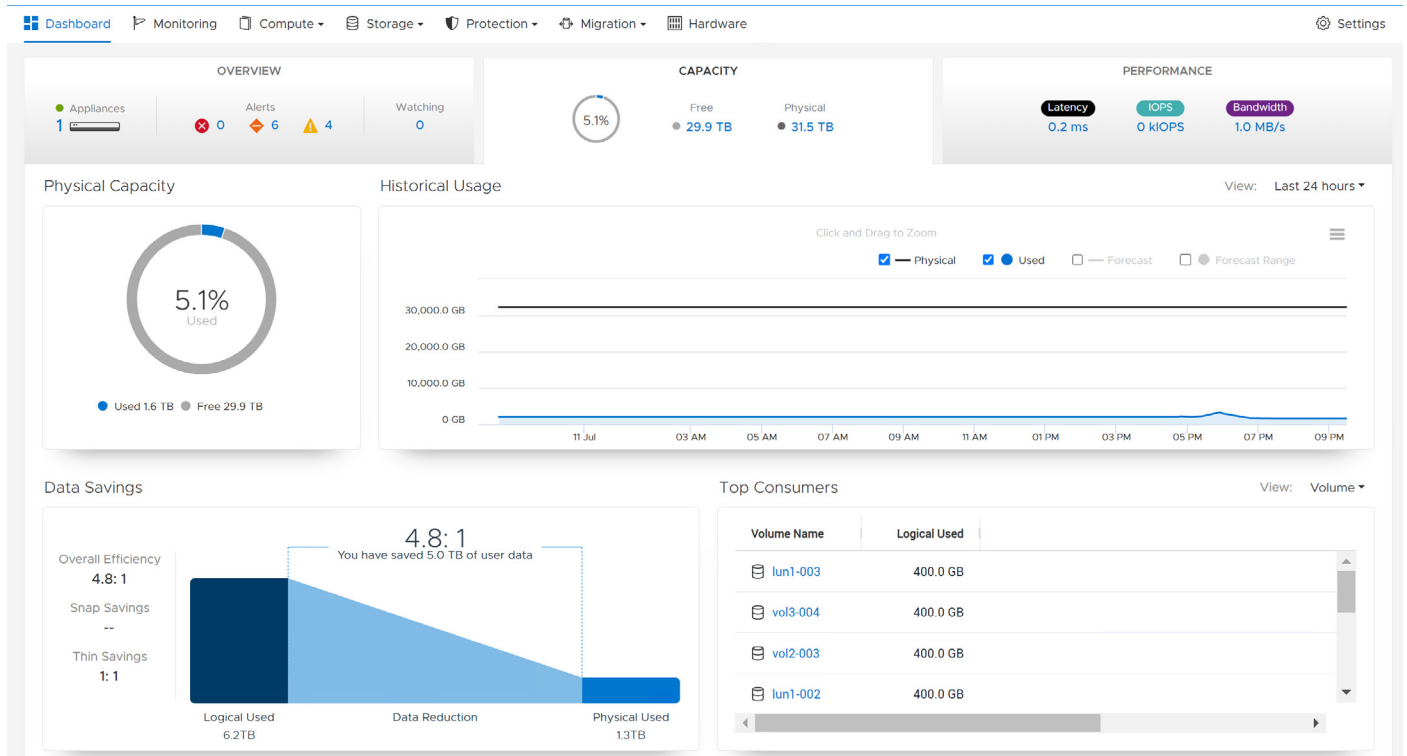

Figure 1 | The Dell™ PowerStore™ 1200T UI is intuitive and easy to use
We observed that the PowerStore 1200T user interface (UI) was more intuitive and easier to use than the Vendor A platform UI. For example, the PowerStore 1200T offers a single page for volume management, whereas the competitive platform requires the user to switch back and forth between two pages. Figure 1 shows capacity information displayed with PowerStore 1200T; note that ratios are clearly illustrated and data savings are pre-calculated. In contrast, the Vendor A UI did not clearly display information like storage utilization.